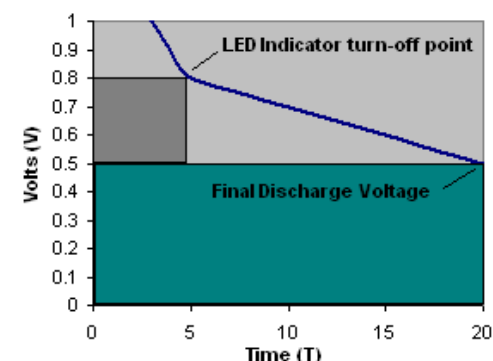

Fig. 1
2. LED indicators for each cell will light when each battery is properly connected. ***Note:** In order for any of the LED indicators to light, a minimum of 3 batteries connected in series must be inserted. Inserting a single battery will still discharge that battery, however, none of the LED indicators will function. If you are discharging multiple single cells and you want to use the LED indicators to monitor each cell's discharge status, you can place jumpers as shown in Fig. 1 to connect the batteries in series. Note that the polarity of these 3 batteries must match the polarity as shown in Fig. 1 before connecting the jumpers. A jumper can be constructed from a short piece of wire with an alligator clip on each end.